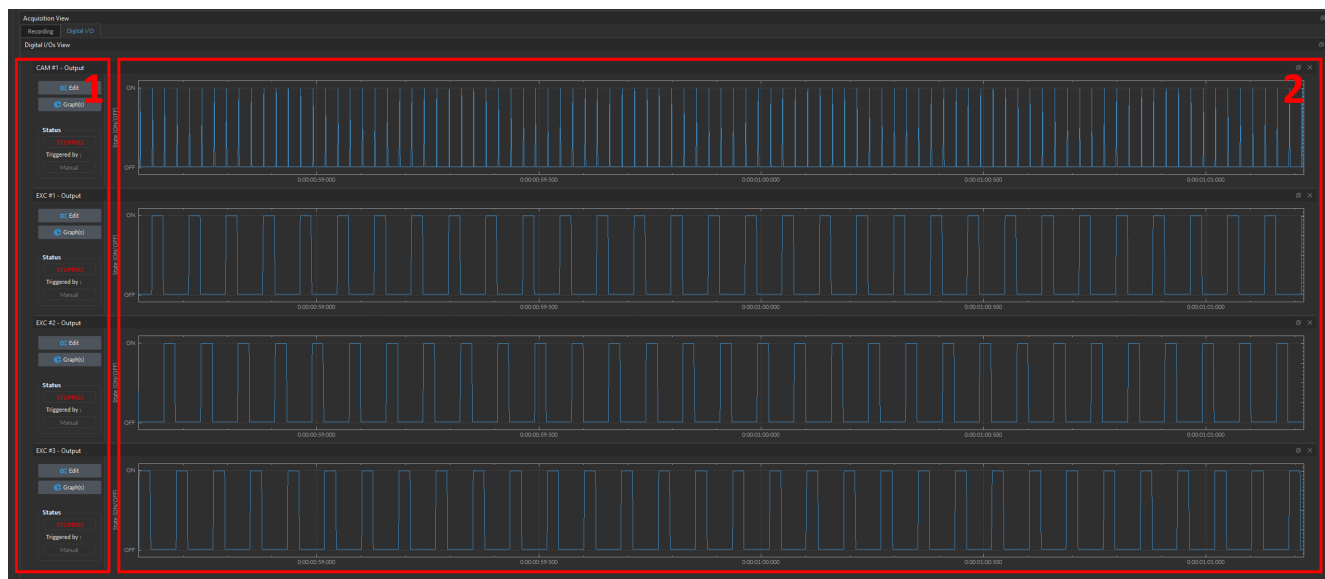

Figure 9.33: Digital I/O(s) View
The **Digital I/O(s) View** displays the active Digital channels, including **CAM** and **EXC** preset channels. Each Digital I/O channel includes: (1) a **Control Box** (Fig. 9.33, 1), and (2) a **Graph** (Fig. 9.33, 2).
The **Digital I/O** traces are displayed in the **Graph** box (Fig. 9.33, 2). Each channel graph includes the following components: